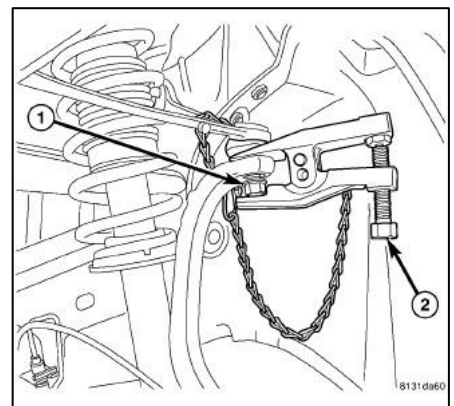

Figure 3
- a. Remove the upper ball joint from the knuckle. Loosen the upper ball joint to knuckle nut (2). Back nut off until nut is even with end of stud. Keeping nut on at this location will help keep end of stud from distorting while using Puller in next step. <figure 3>